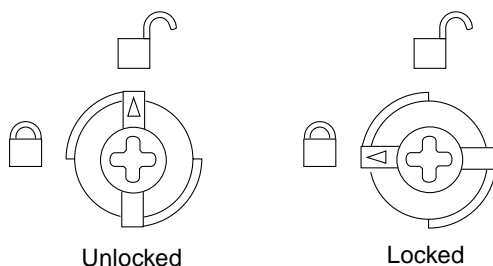
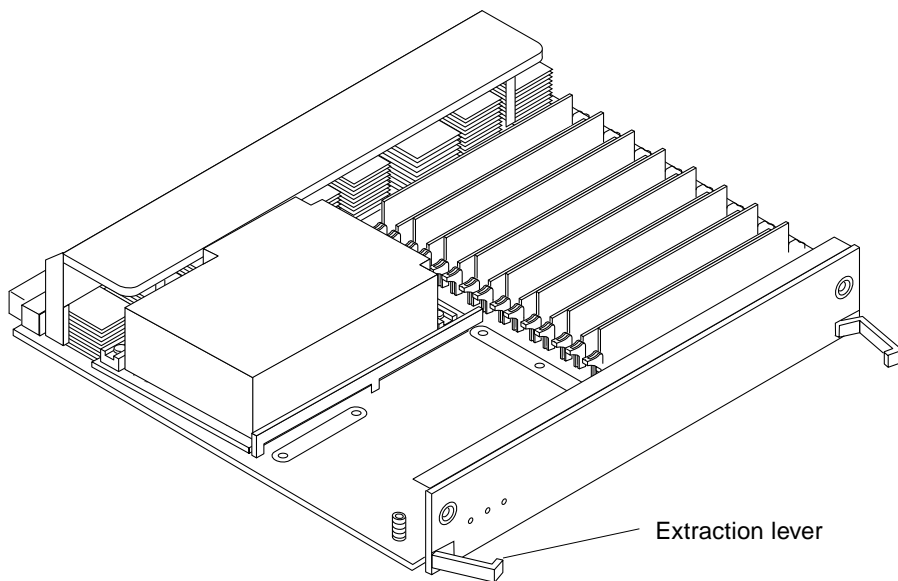

FIGURE 3-3 Unlocking and Locking Quarter-Turn Access Slots
FIGURE 3-4 CPU/Memory+ Board
Insert the screwdriver into each quarter-turn access slot (the slots are on the left and right sides of the board) and turn the arrow to the unlocked position (FIGURE 3-3).
3. Pull the ends of both extraction levers outward simultaneously to unseat the board centerplane connector from the centerplane receptacles (FIGURE 3-4).
Insert the screwdriver into each quarter-turn access slot (the slots are located on the left and right sides of the board front panel) and then turn a quarter turn so that the arrow points to the unlocked position (FIGURE 3-3).
2. Pull the ends of both extraction levers outward simultaneously to release the board from the centerplane receptacles (FIGURE 3-4).
2. Ensure that both extraction levers are in the insert position (arrow pointing outward), and that the quarter-turn access slots are unlocked (arrow indicates unlocked position) as you slide the board toward the centerplane receptacles (FIGURE 3-3 and FIGURE 3-4).
4. **Mechanically lock the board to the system chassis by inserting a Phillips No. 1 screwdriver into each quarter-turn access slot and then turning to the locked position (FIGURE 3-3).**